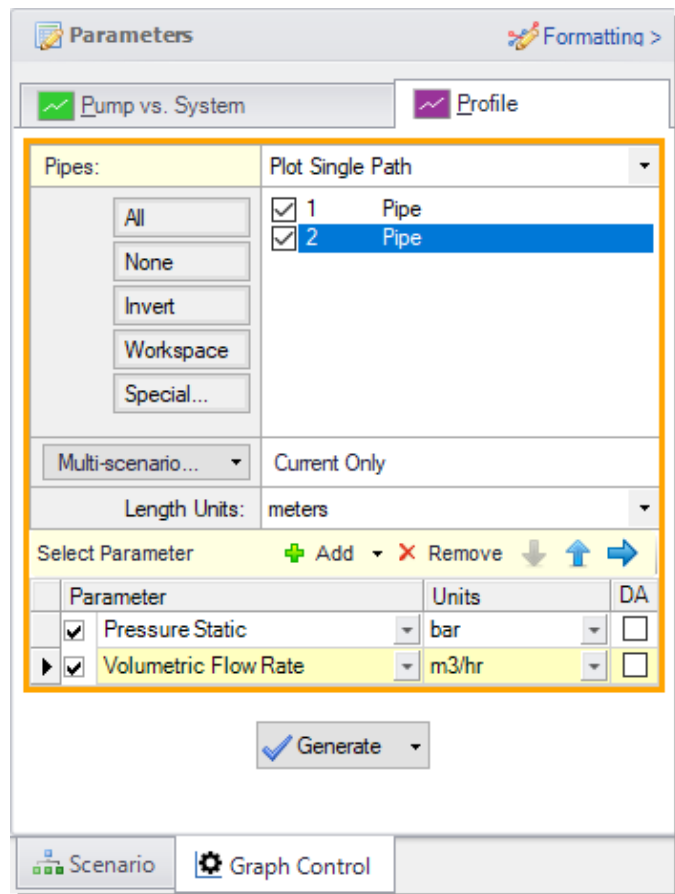

Figure 2.31 The Graph Control tab on the Quick Access Panel allows you to specify the graph parameters you want to graph in the Parameters/Formatting area
- ▶ **To add a stacked graph,** click the Add button with the green “+” icon next to Select Parameter, shown in Figure 2.31. A new row under the Parameters